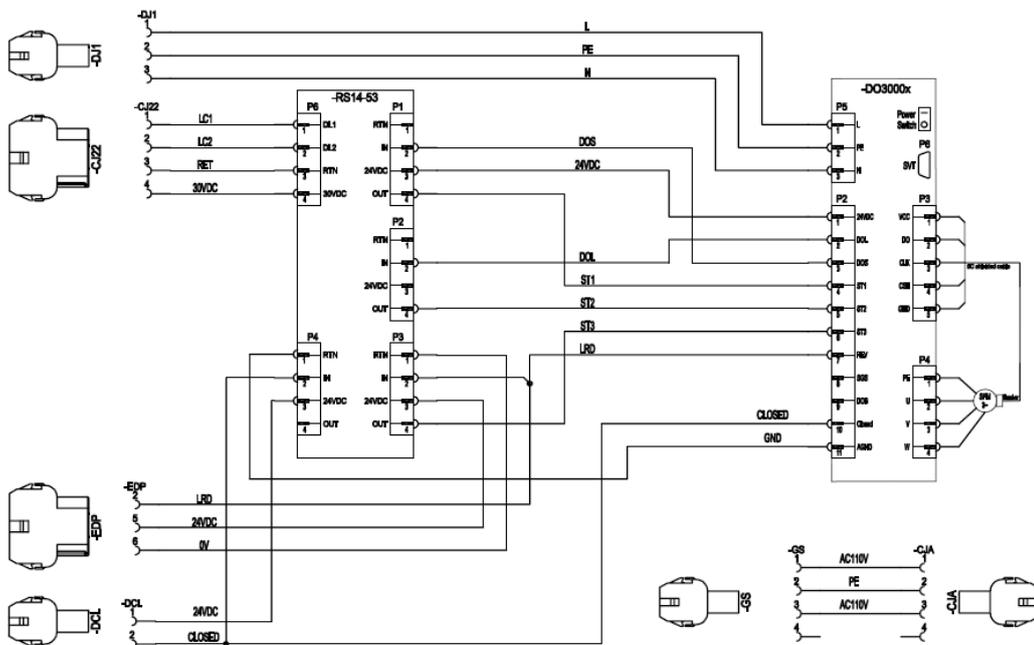

Fig.3-7 Wiring of HAA24360G6, HAA24360G11 controller components
3.1.6 Wiring of HAA24360G6, HAA24360G11 controller components (as shown in Fig.3-7)
- ◆ Randomly attached cables are correctly connected according to Fig.3-1 ~ Fig.3-7.